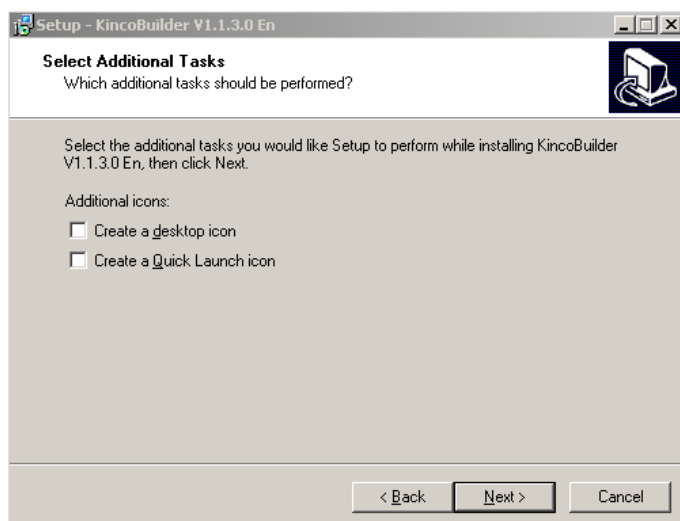

Figure 3-4
- ④ Click *Next*, continue to confirm whether to create a desktop icon or a quick launch icon, as shown in Figure 3-4: